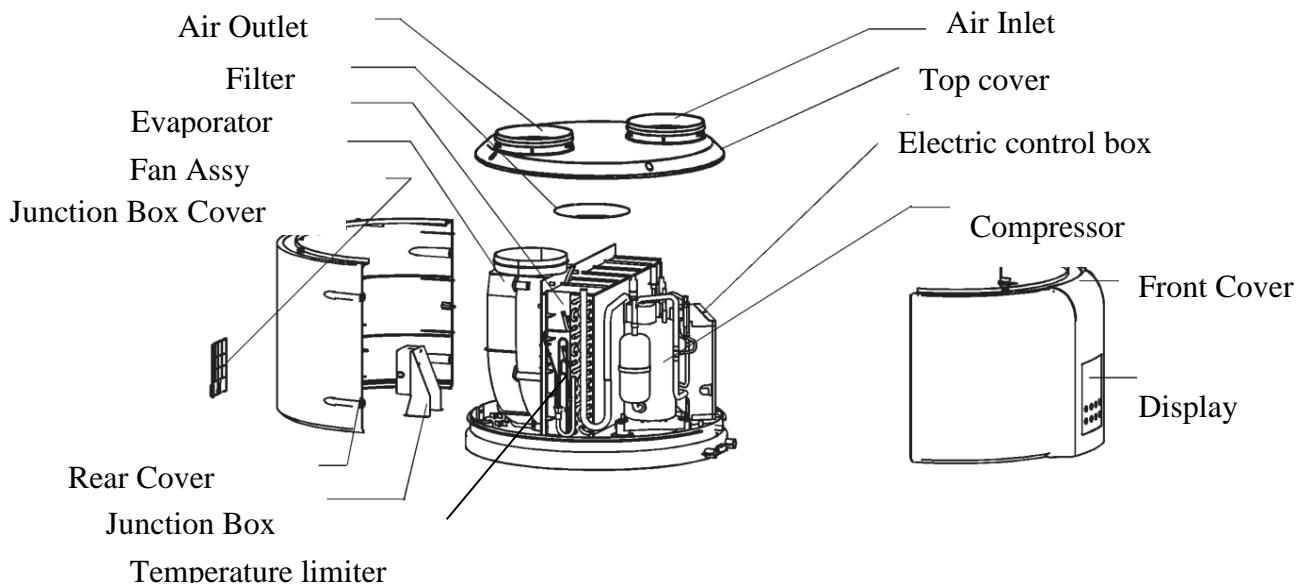

Figure 2.7.-1.
HB200(C) heat pump water heater is basically composed of an upper part (**Figure 2.7.-1.**) containing heat pump equipment and a lower part (**Figure 2.7.-2.**) containing the storage tank. The storage tank of the sanitary hot water- having a volume of – is covered by an enamel coating internally and by a thick polyurethane insulation layer having large efficiency externally, and the latter is covered by plastic surface of the appliance. The pipe radiator, controlling indicator anode electrics and magnesium indicator anode located on the closing cover are placed on a horizontal axle common with the closing cover.